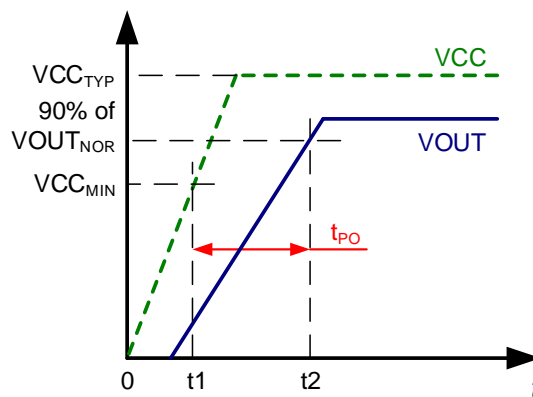

Figure 5: Power On Time (t_{PO})
- t_2 : V_{OUT} settles within ±10% of its steady state value under an applied primary current (see Figure 5).